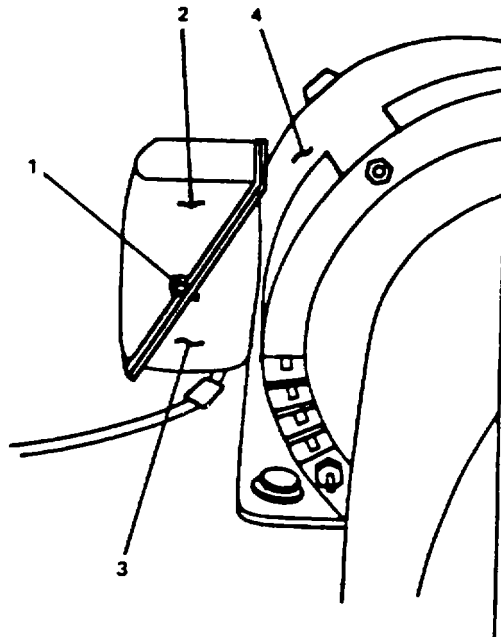

Figure 2-135. Electrical Junction Box.
a. Remove screws (1, Figure 2-135) holding electrical junction box cover (2). Remove cover.